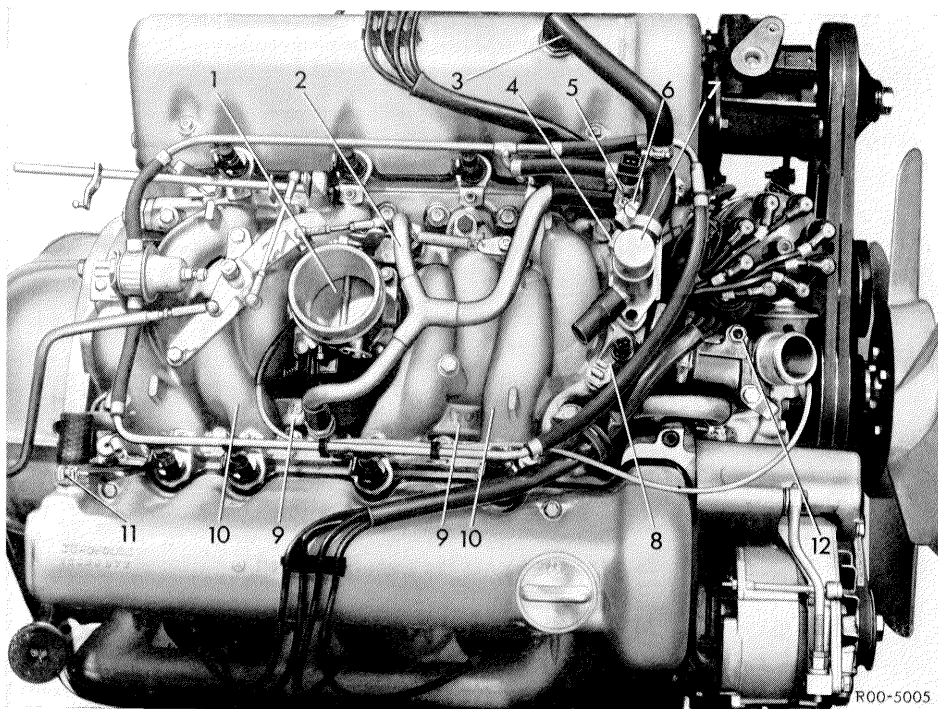
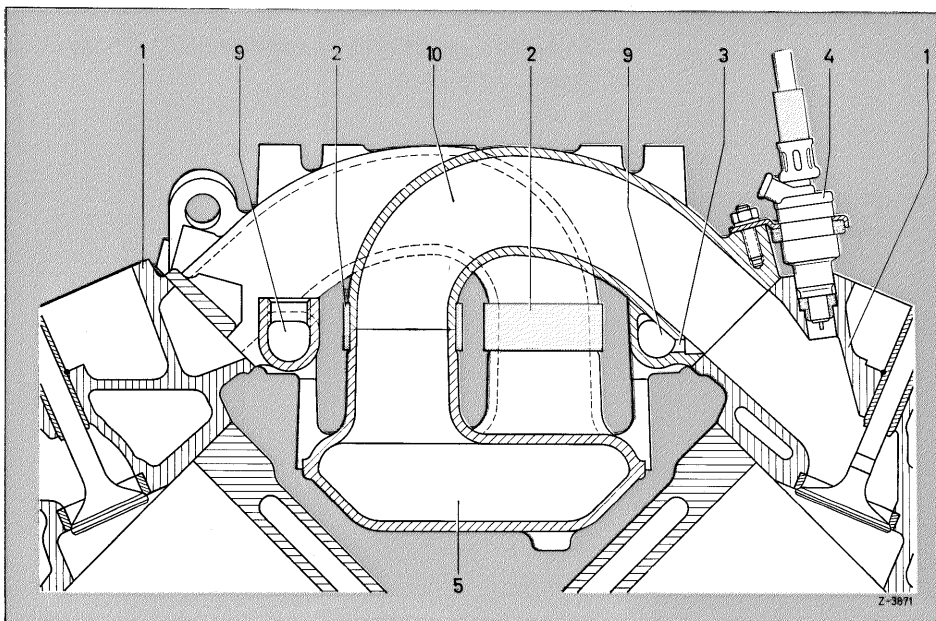

Fig. 13
Fig. 14
The intake air passes through the air filter housing (silencer) and air filter (paper cartridge) into the intake manifold which is located between the cylinder banks and consists of an upper and a lower section (5 and 10) (Fig. 14). The upper and lower sections are connected by 8 hose-type connecting pieces and 4 bolts. The air filter housing (silencer) secured with 3 rubber rings, is located on the vertically arranged venturi control unit (1) which in turn is bolted to the flat lower section of
the intake manifold (Fig. 13). The upper part of the intake manifold (10) consists of 8 curved pipes which are cast integrally with one another and connect the lower section of the intake manifold with the intake ports in the cylinder heads. The upper manifold section is secured to the cylinder heads by 16 bolts.
during the warming-up period and the crankcase breather hose (3) connect the additional air valve (7) to the idle-speed air distributor (Fig. 13).
The idle-speed air distributor discharges the air into a forked line (2). The two lines so formed connect, in the center of the engine, with the idle-speed air ducts (9) which are cast integrally with the upper intake manifold section (10) (Fig. 13). The intake pipes and idle-speed air ducts are connected by 5 mm bores (3) located immediately in front of the point where the intake pipes join the cylinder heads (Fig. 14).